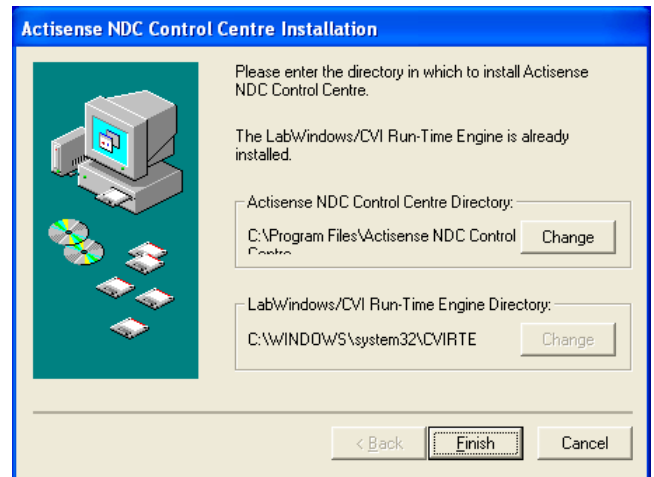

Figure 4 – Install options
4. Double click on the 'setup.exe' program file and follow the on-screen instructions of the standard Windows™ install program. The install location can be change at this point, however, the default location is normally acceptable (refer to figure 4 and 5).